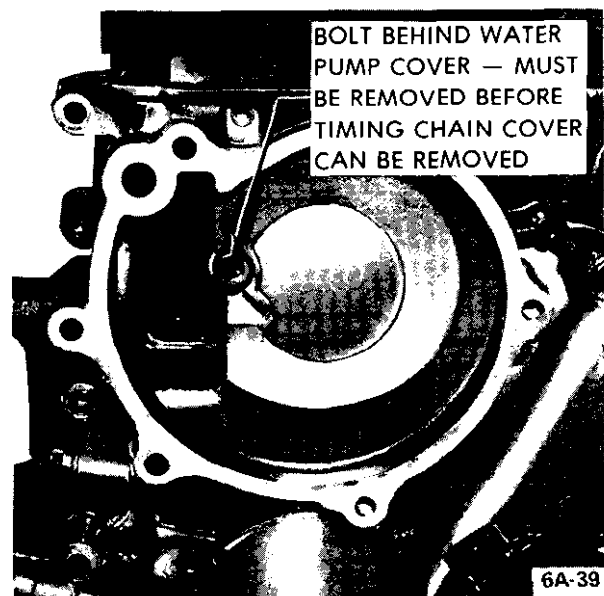

Figure 6A-39 Bolt Behind Water Pump
11. Remove timing chain cover bolts. One bolt is covered by the water pump. See Figure 6A-39.